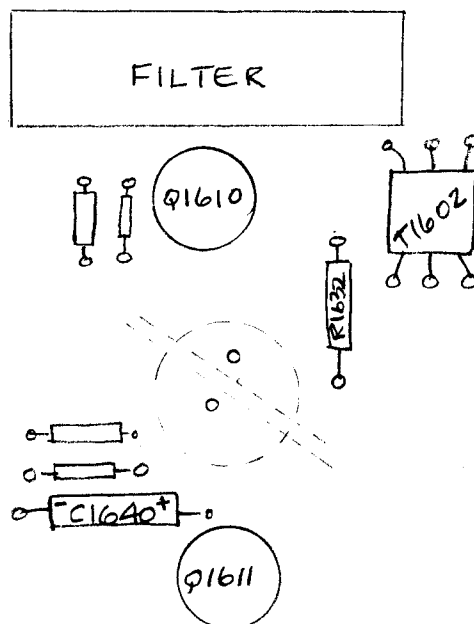

FIG. 1
6. With a #56 drill, make two holes next to R1632 (10K ohms) approximately $\frac{1}{4}$ " center to center. (see FIG. 1)